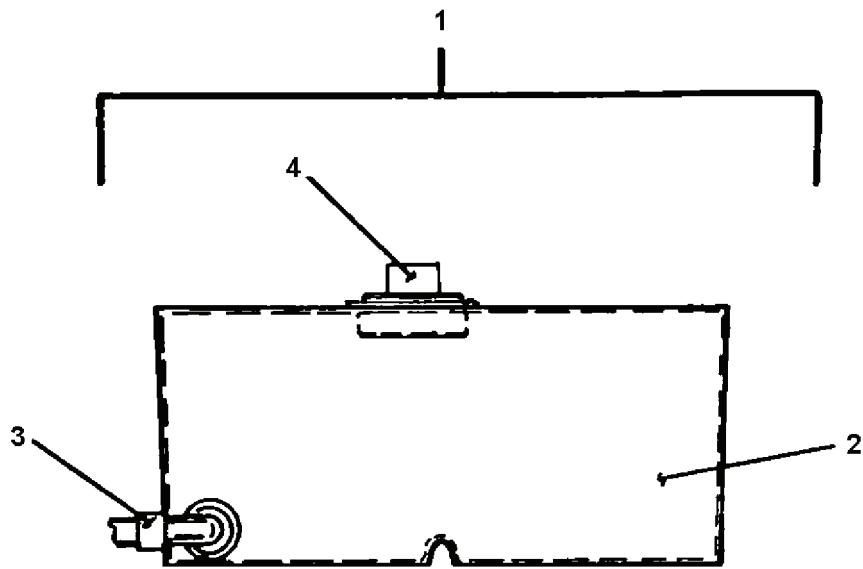

Figure 2-26. Bleach Tank Assembly.
**2-23. Bleach Tank Assembly. (Figure 2-26 and 2-11)**
To remove Bleach Tank Assembly (Figure 2-26), proceed as follows:
- d. Disconnect bleach line at adaptor elbow (3, Figure 2-26) on the tank.
- a. Position the new tank (2, Figure 2-26) in its mounting.
- b. Connect the bleach line to the adapter elbow (3).
- e. Install fill plug (4, Figure 2-26).